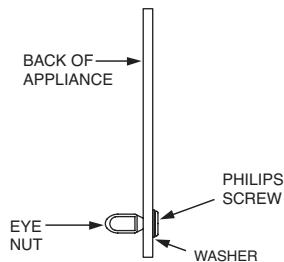

FIGURE 19
**Note:** For the Henny Penny Pressure Fryers that utilize the ANSUL Henny Penny Fryer Nozzle Kit, Part No. 434455, the 5/16 in. philips screw supplied in the Henny Penny Fryer Nozzle Kit, the 5/16 in. eye nut, and 5/16 in. washer included in the Restraining Cable Assembly Kit, must be used. (See Figure 19).